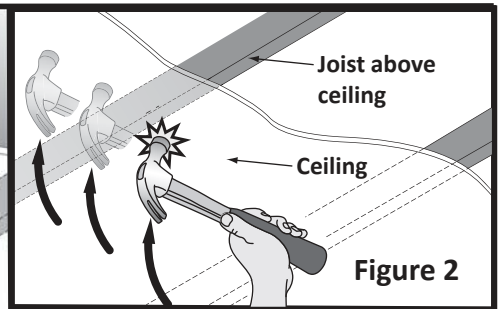

Figure 2
**Step 2:** Using a hammer, tap around your mark to find a ceiling joist/beam and mark the spot (Figure 2, 3, & 4). Then, move to the right or left approximately 18"-24" and tap around to find a second ceiling joist/beam (Figure 2 & 3).